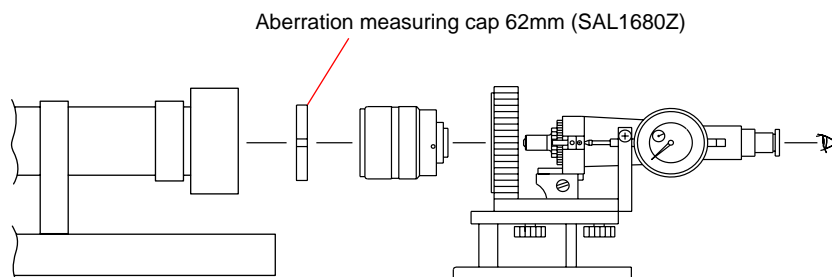

Fig.4-7-1
- 2) Set the aberration measuring cap 62mm on the tip of lens as shown in the Fig.4-7-1, then measure the flange back (f’F).